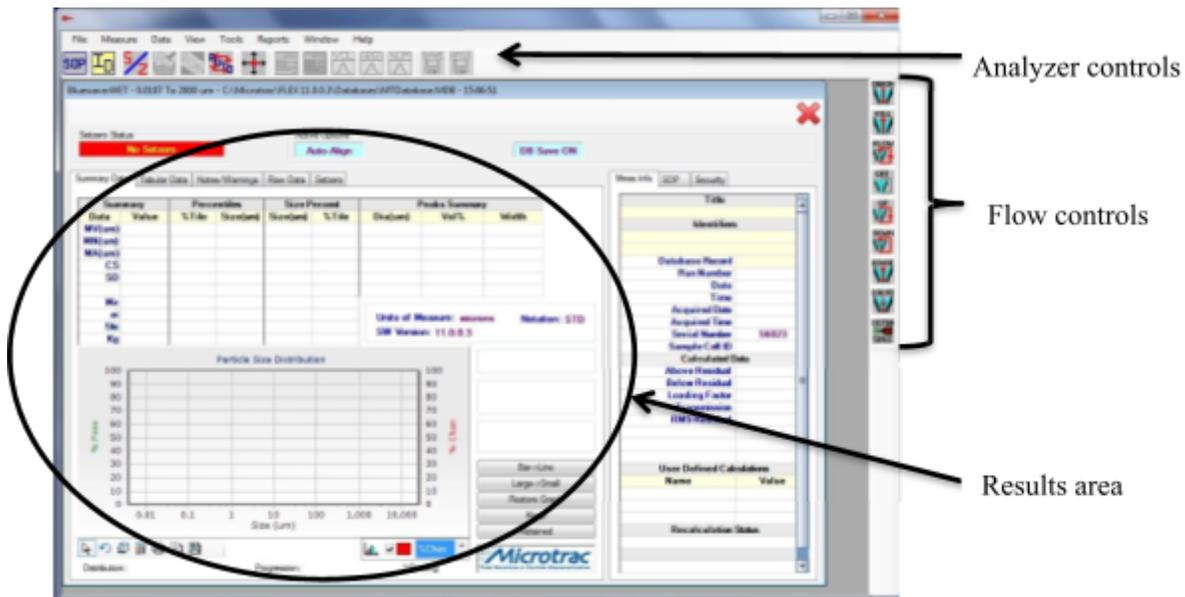

Figure 3. Flex software home screen
- 4. Loading the sample.** Once the measurement SOP has been designed in the PartanSI software, you must start the SDC flow system. Go to the Flex software home screen (Figure 3) and use the flow controls on the right side of the screen.